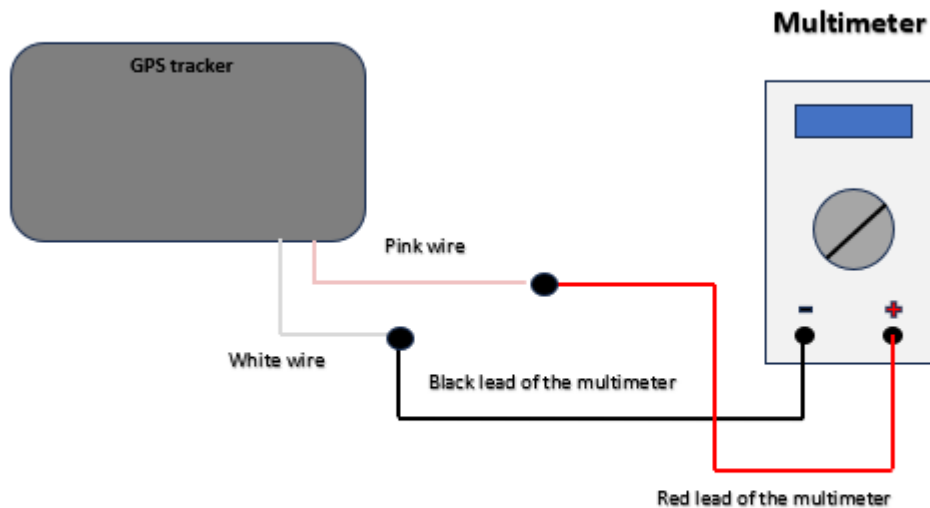

Fig. 8 Connection Diagram
2. Assemble the connection circuit according to "Fig. 8 Connection Diagram."
Given that the pink wire is generally for RX, and the gray wire is for TX, you might want to double-check the specific wiring diagram for your GPS-tracker Omnicomm model ("Рис.8") to ensure you are testing the correct wire for "RS 232Tx". If the pink wire is indeed connected to the Tx line in your specific model or diagram, then the procedure is correct for that setup.